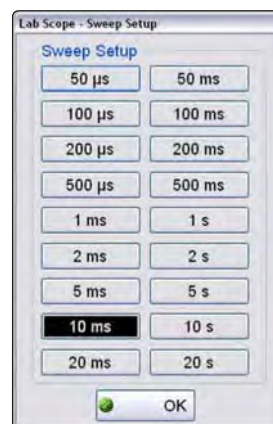

Figure 9-10 Sample Sweep Setup dialog box
2. Tap **Sweep** to open the sweep dialog box (Figure 9-10)